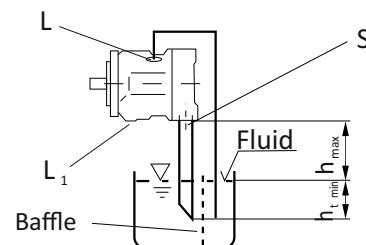

Fig.4
- If the minimum fluid level is equal to or below the top of the pump, pipe ports "L'" and possibly "S" as Fig.4.; close port "L". 1
- When mounting above the reservoir, see fig.4. Conditions according to 1.2.1.